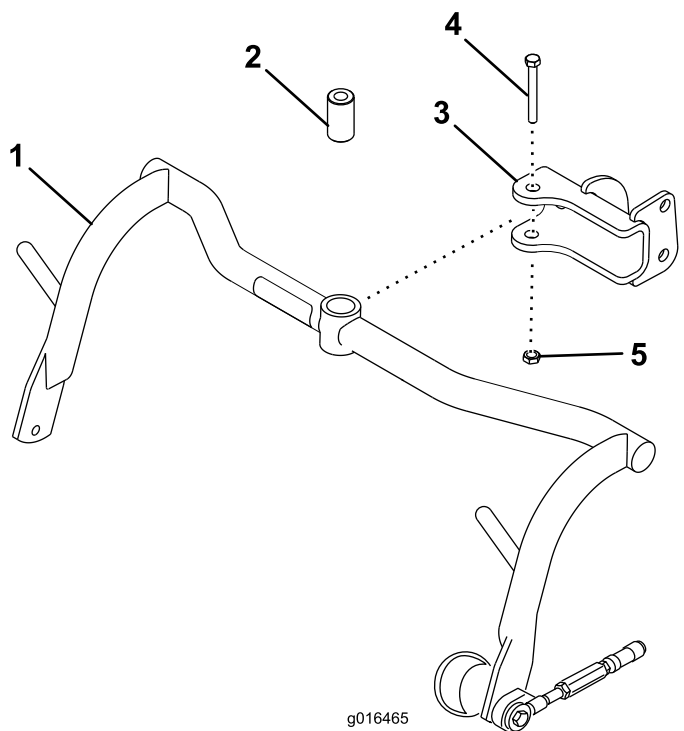

Figure 5
1. Mount a carrier frame assembly to each clevis with a spacer, bolt (1/2 x 3-1/4 inch), and locknut (1/2 inch); refer to Figure 5. Torque to 91 to 113 N·m (67 to 83 ft/lb).